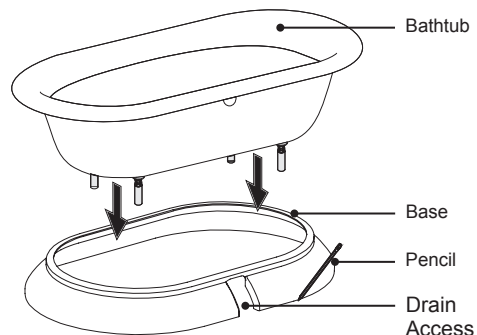

Figure 27. Bathtub Placement
- 3 Using a pencil, outline the pedestal base, taking note where the drain access is located (Figure 27).